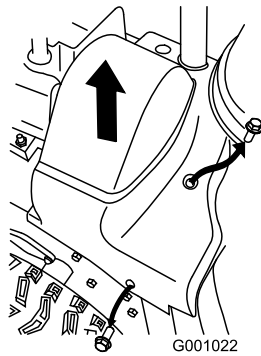

Figure 36
- Lift up the right side of the belt cover (Figure 36).